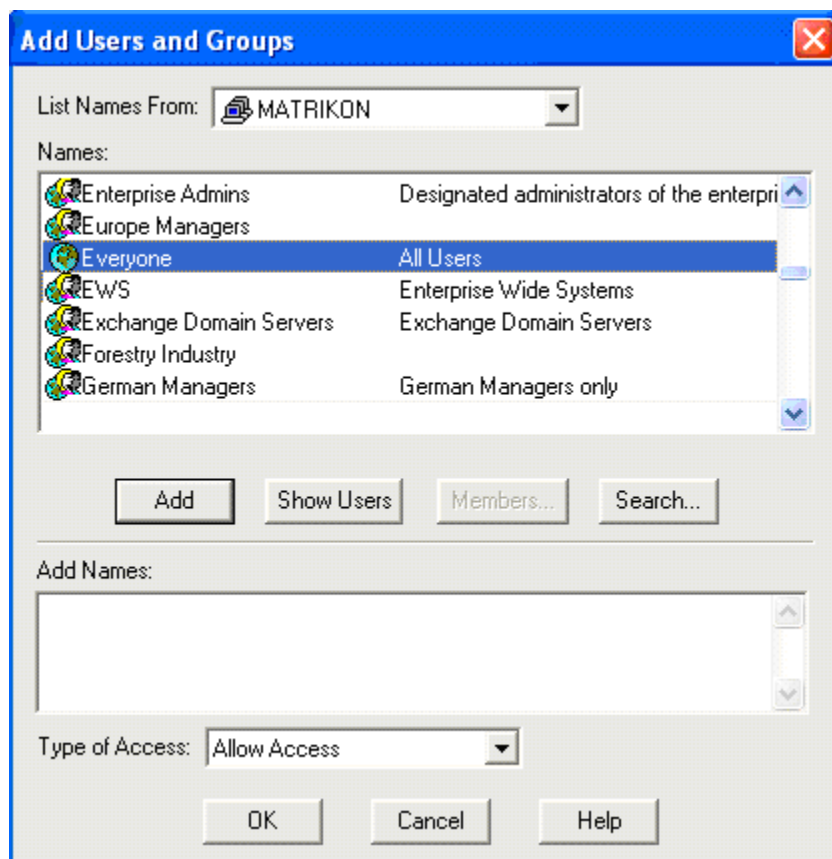

Figure 53 - Add Users and Groups Window
10. The **Add Users and Groups** window (Figure 53) appears.